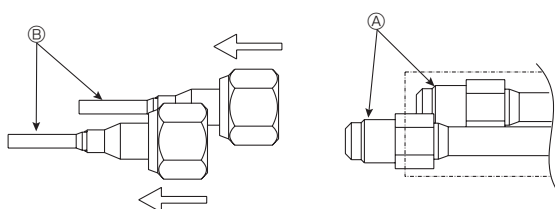
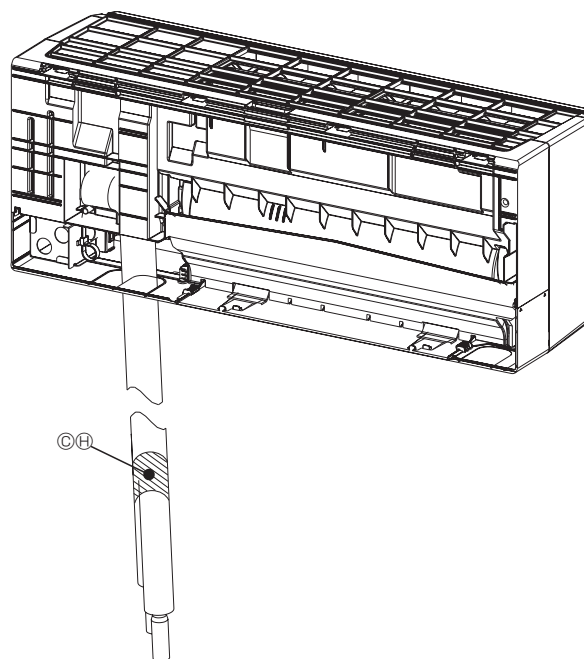

Fig. 3-9
Fig. 3-13
3.3.3. How to install connecting pipes (F) (For WL04/06/08 model) (from Fig. 3-9 to Fig. 3-13)
- (1) Loosen the nut on the L-shape piping side with two wrenches, and remove and disposal the piping (B). (Water pipe In and Water pipe Out) (Fig. 3-9)